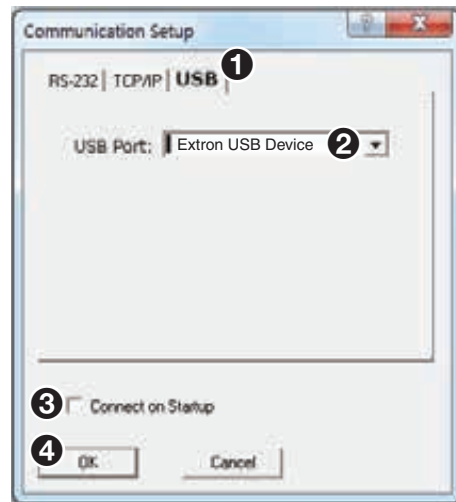

Figure 163. Communications Dialogs
2. The **Communications Setup** dialog box opens. Select the communications tab. Select the **USB** tab (see figure 163, ①) when using the front panel config port.